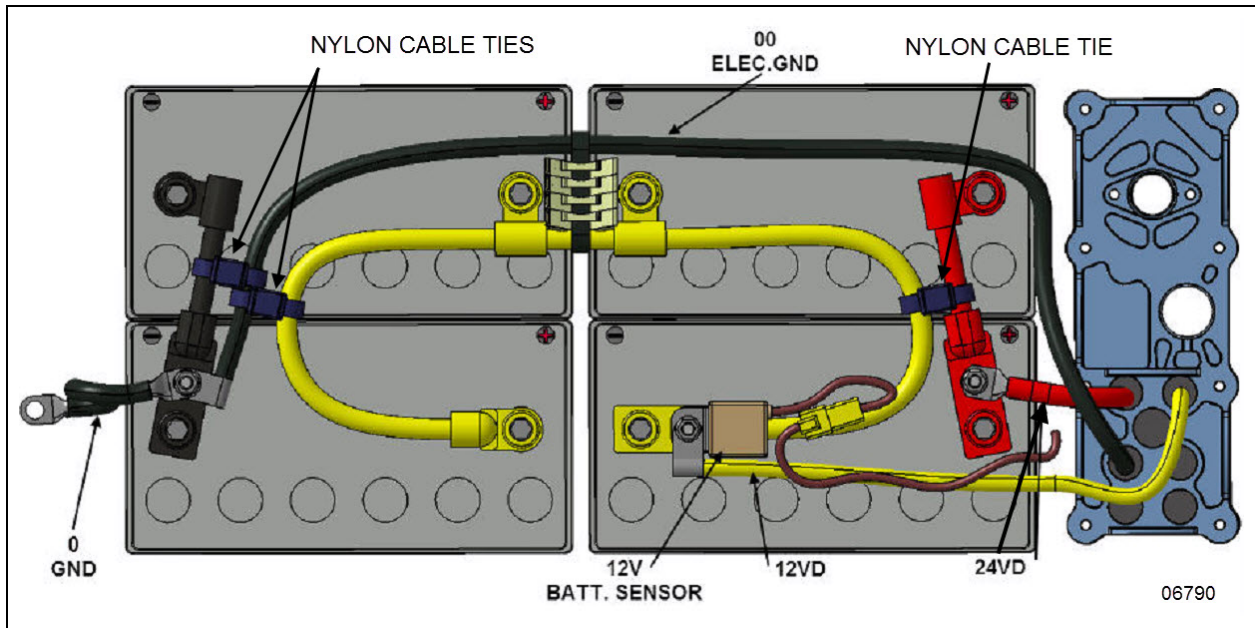

FIGURE 28: AGM BATTERY CONNECTIONS
This vehicle is equipped with PRIME energy management system, it is provided with four (4) Absorbed Glass Mat (AGM) 12-volt batteries connected in series-parallel (FIGURE 28).